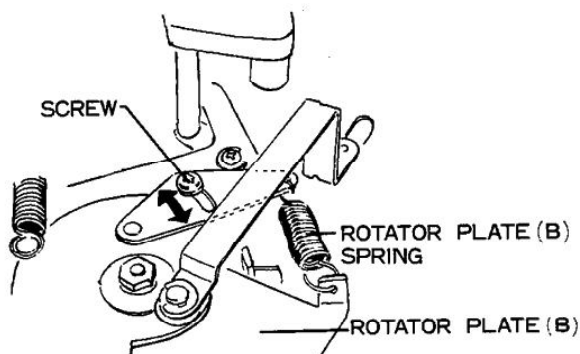

Fig. 19
Adjust the tension of the spring attached to the ROTATOR PLATE (B). Turning the screw clockwise will make the ROTATOR PLATE (B) move slowly; turning it counterclockwise will make the ROTATOR PLATE (B) move fast. (Fig. 19)